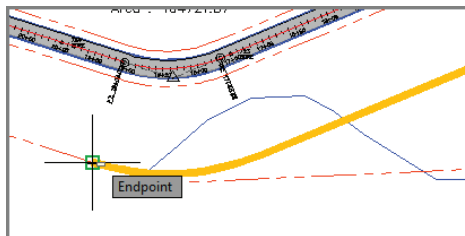

FIGURE 12.12 Selecting the ending point of the frontage
11. When you're prompted for the endpoint of the frontage, move your cursor in a westerly direction along the property line and snap to the western endpoint of the same parcel (see Figure 12.12).